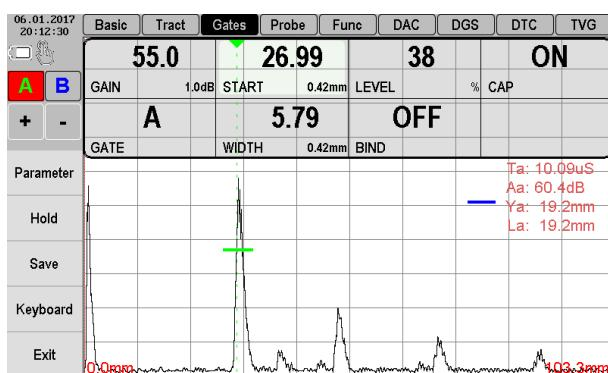

Figure 2.41 – Overlapping of A-gate on the signal from the nearest reflector
5. Overlap A-gate on the signal from the nearest reflector (Figure 2.41).